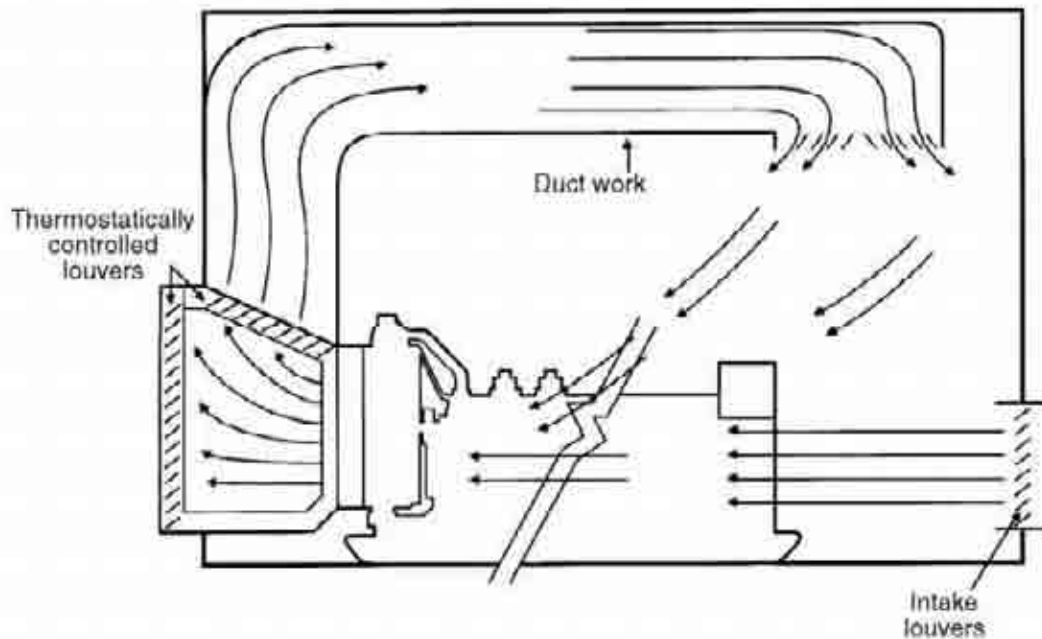

Figure 9. Radiator with thermostatically controlled louvers.
- Thermostatically controlled louvers can be installed to recirculate some of the radiator exhaust in order to maintain a warm air flow across the engine (see Figure 9). This also maintains a comfortable working environment for maintenance personnel. Caution must be exercised so that the recirculated air is reintroduced upstream of the engine and is well mixed by the time it reaches the radiator.